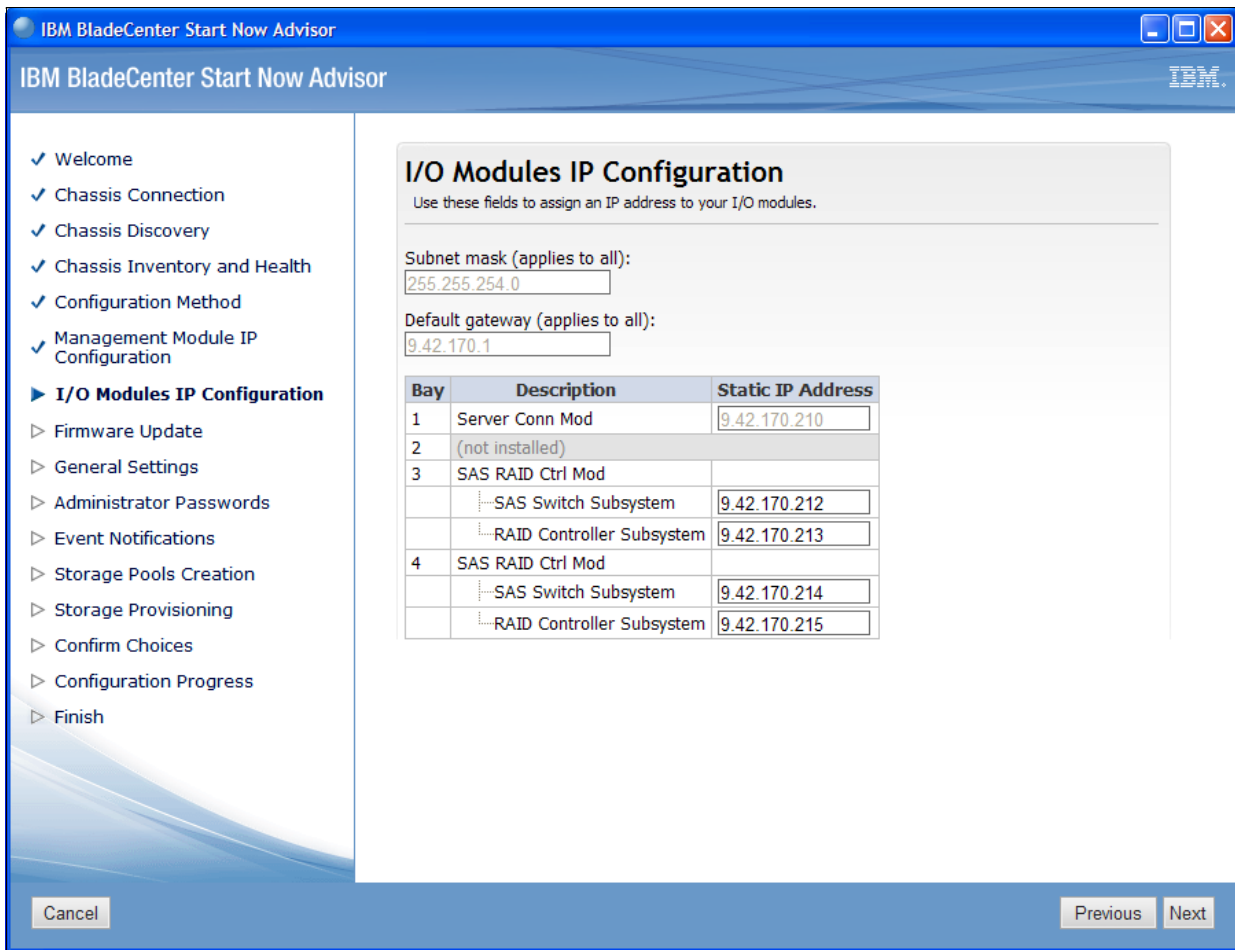

Figure 2-7 IP configuration for the I/O modules
7. Enter network settings in the “I/O Modules IP Configuration” window (Figure 2-7).